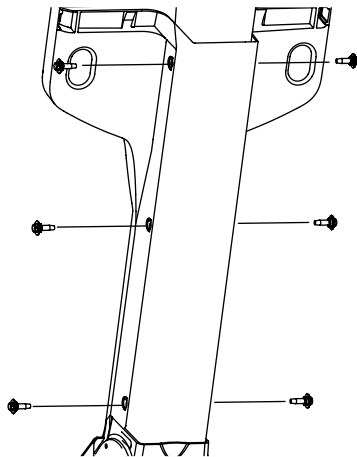

Figure 2-7
- Secure the console in place with the six shoulder screws. See Figure 2-7. Torque the shoulder screws to 60 in/lbs (+/- 20%).